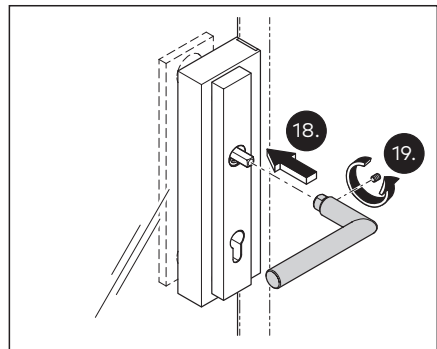

Fig. 21 Fix the door handle in place on the lock side.
- 18. Attach the door handle on the lock side and push until you hear it click into place against the square spindle (Fig. 21).